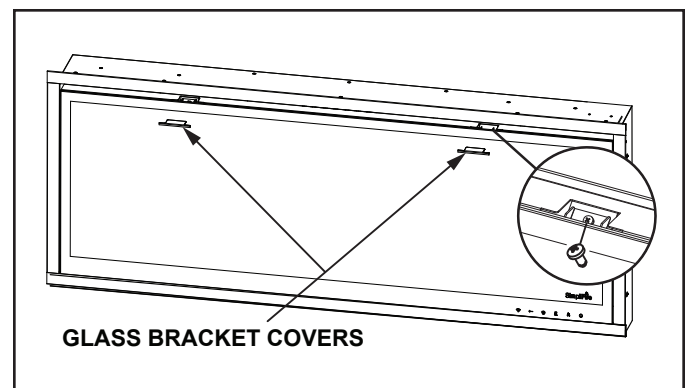

Figure 7.6 Glass Attachment
2. Place the top edge of the glass against the appliance and secure with two (2) ST4X8 screws.
3. Place glass bracket covers into place over the screws. See Figure 7.6.